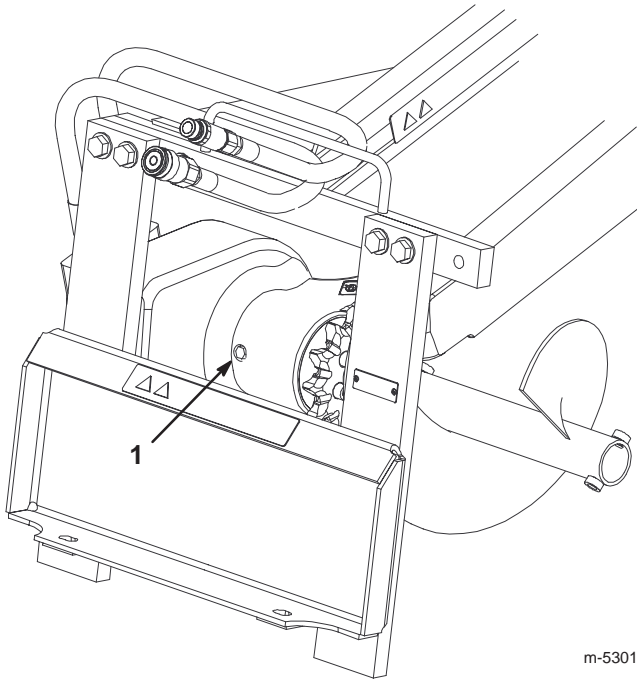

Figure 7
1. Clean the area around the bearing case fill hole (Fig. 7).
2. Remove the plug from the bearing case fill hole (Fig. 7).
1. Clean the area around the gear case fill hole plug (Fig. 7).
2. Remove the plug from the gear case fill hole (Fig. 7).
1. Clean the area around the bearing case fill hole plug (Fig. 7).